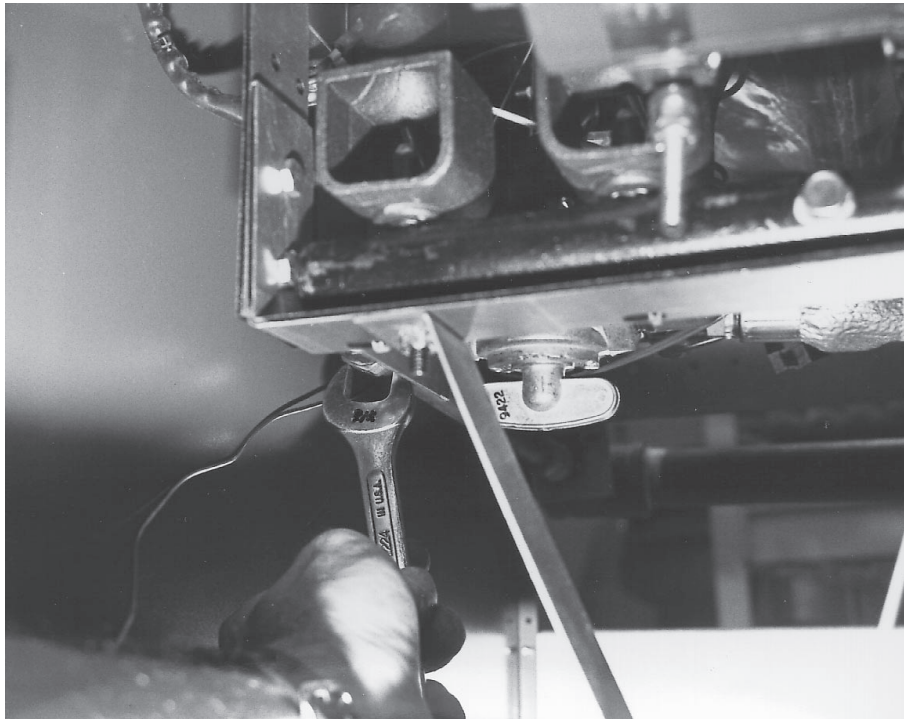

Fig. 73
9. With a 13/16" wrench disconnect the compression elbow from the gas inlet tube. (Fig. 73)